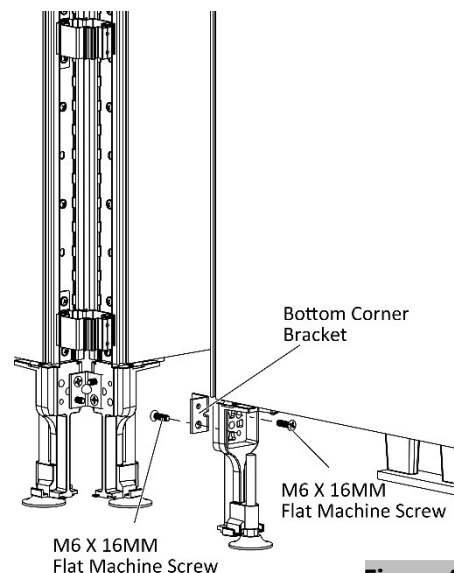

Figure 4
8. Securely fasten corner bracket of third panel with two M6 X 16MM, Flat Machine Screws, (Figure 4).